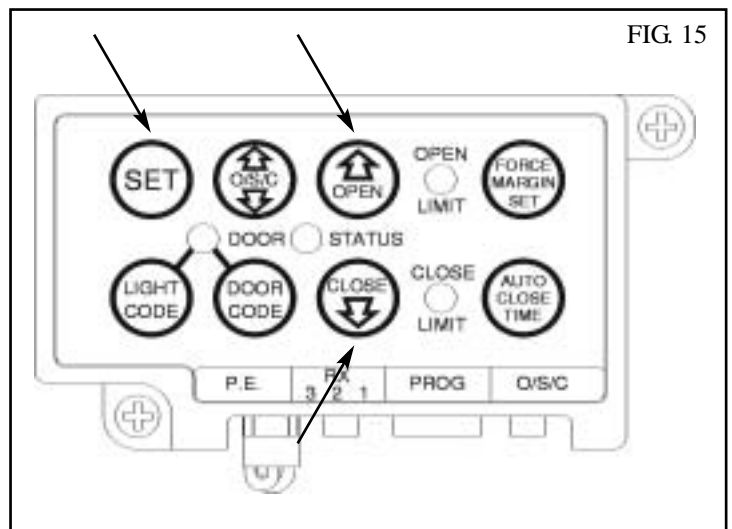

FIG. 15
4. Press the Close button (Fig. 15), the door will start closing. Release the button once you have reached your desired closed limit position.
7. Press the Set button (Fig. 15). This action will store into memory the open limit position. The door will now automatically close to its limit position then fully open to calculate the safety obstruction forces (ISS). Please be aware of the above warning. The opener can now be operated from the O/S/C Button.
1. Press and hold the Close button (Fig. 15) for six (6) seconds until you hear three beeps and the red Close Limit LED starts to flash. Release the button.